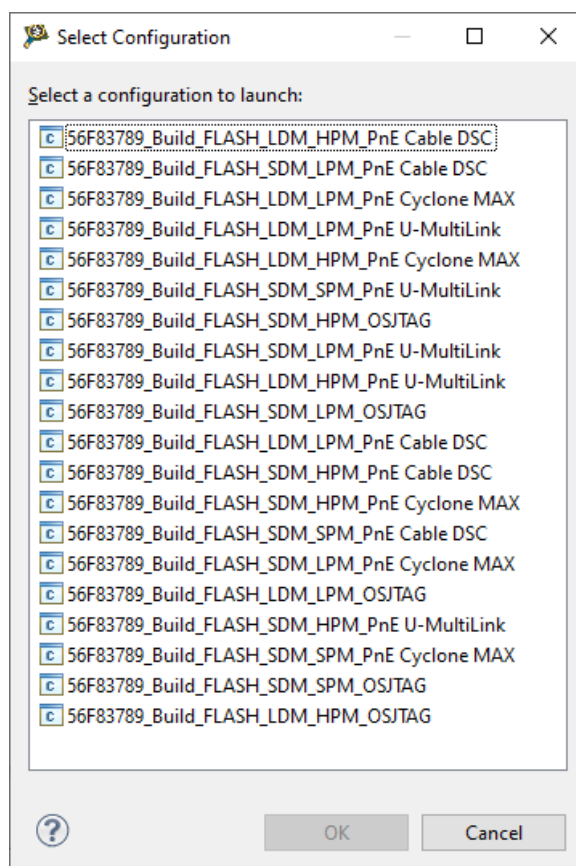

Figure 13. Select Configuration window
- Click the debug button (point 4). The “Select configuration” window opens (Figure 13). Select the correct configuration for the debugger interface that you are using (P&E Micro, USB-TAP, and others).